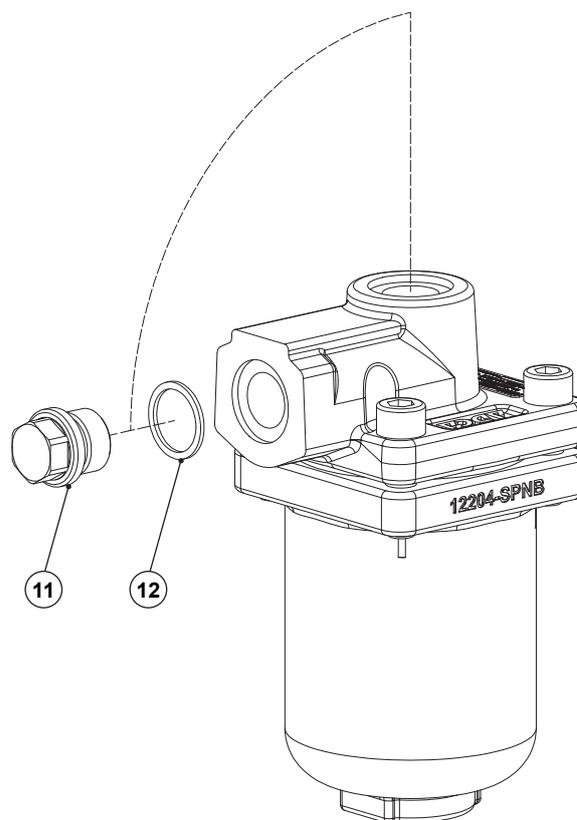

Fig. 2: Outlet flow direction change.
2. The automatic vent should be installed vertically with the inlet at the bottom. The outlet flow direction is vertical (VT) or straight front (VF), depending on the ordered version. Either way the outlet flow direction can be changed by changing the plug (11) position. See Fig. 2.